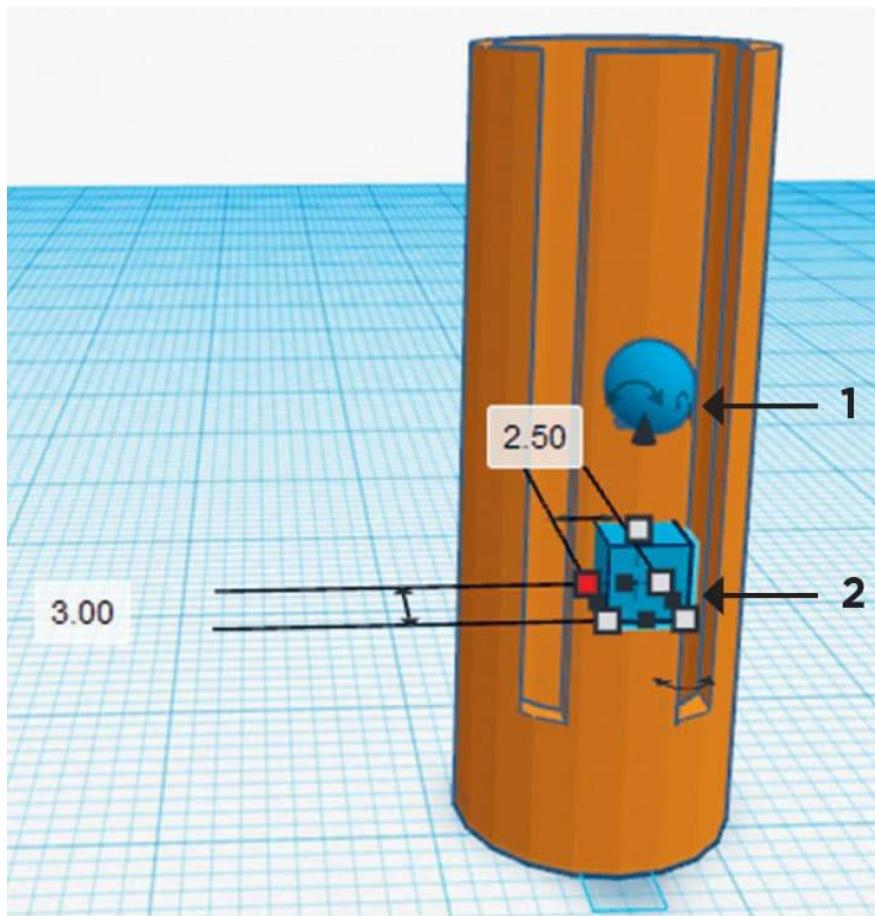

FIG. 5: Add a button and a lock to the button strip.
6. Next, we add the button and the lock to the button strip to create the on-off button/actuator. The push button is $2 \text{ mm} \times 2 \text{ mm}$. The lock is a sphere, 2mm in diameter. The dimensions of the button and lock should be smaller than the corresponding holes on the head casing. In fig. 5, arrow 1 identifies the lock and arrow 2 identifies the on/off button.